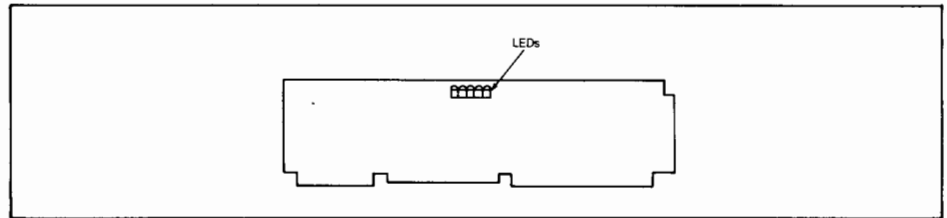

Figure 5-13. Location of LEDs on the Disc Controller PCA.
14. For disc controller PCAs with later ROMs (1818-1497), check the five LEDs (figure 5-13) and if the middle LED is lighted, the frequency is correct. If necessary, adjust the potentiometer on the motor control PCA until the middle LED is lighted.